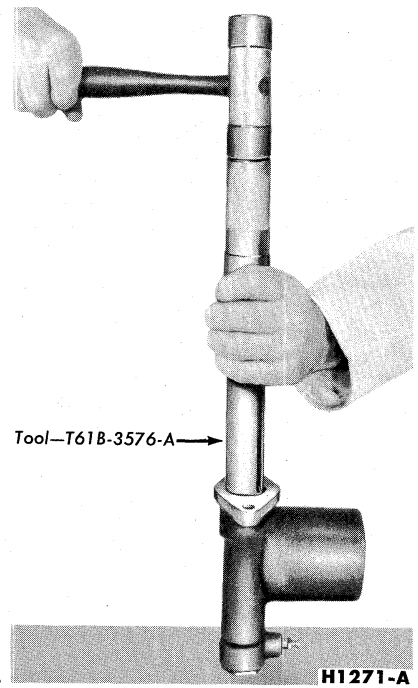

FIG. 30—Master Cylinder Bushing Installation
6. Being careful not to scratch the surface of the push rod, slide all the bushing and seal components against the retaining flange at the rear of the master cylinder bore. Force the parts into place with the tool shown in Fig. 30 and install the bushing snap ring.